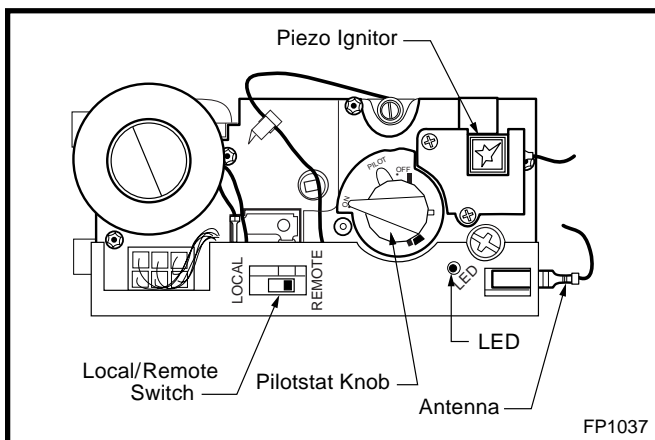

Fig. 52 Comfort control valve.
1. If the manual switch is in remote position, switch it to **LOCAL**. (Fig. 52)
1. Locate **LED** light on valve. (Fig. 52)
1. Confirm the valve is not in **REMOTE** mode. (Fig. 52)